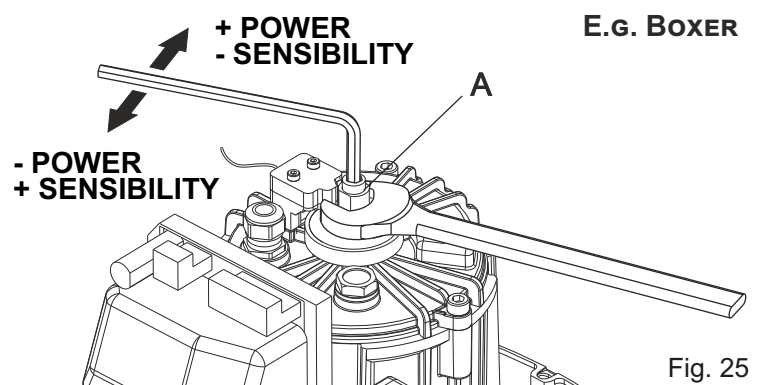

Fig. 25
9.2. In order to adjust the clutch, act on the grub screw "A" (Fig. 25) as follows: